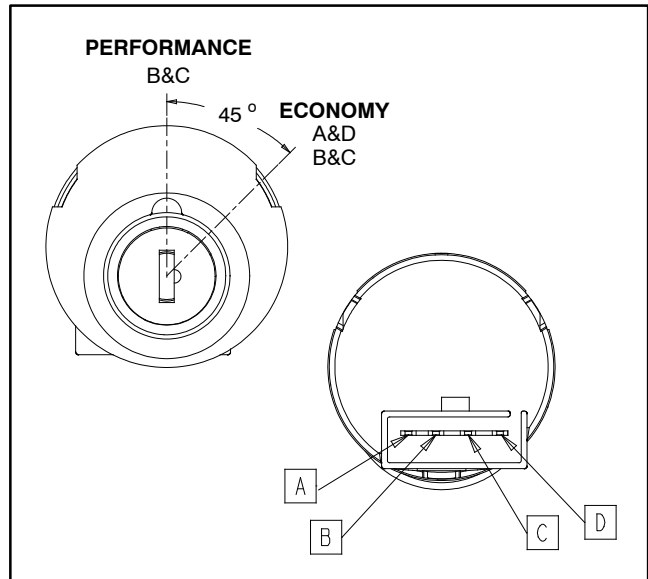

Figure 24
4. With the use of a multimeter (ohms setting), the speed limit switch functions may be tested to determine whether continuity exists between the A and D terminals for each switch position. The speed limit switch terminals are identified as shown in Figure 24.